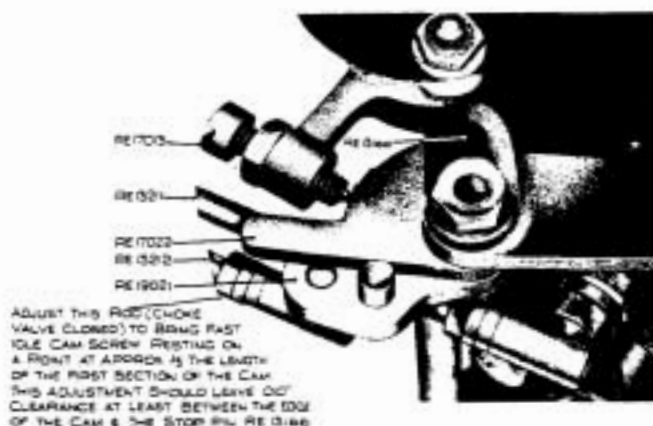

FIG. 7. SETTING THROTTLE STOP.
- (v) Fit the screw and locknut to the fast idle cam lever and with the screw nose resting on the high stop of the fast idle cam, adjust the screw (RE.17013) to give .030" clearance between the throttle stop and the throttle stop lug. (See Fig. 7).
- (vi) Adjust the rod from the fast idle cam link to the choke valve as shown in Fig. 7.
Similarly, should there be a foul between the new fast idle cam link and the fast idle cam stop, (RE.13166, Fig. 7), the cam stop may be filed on its outer end.